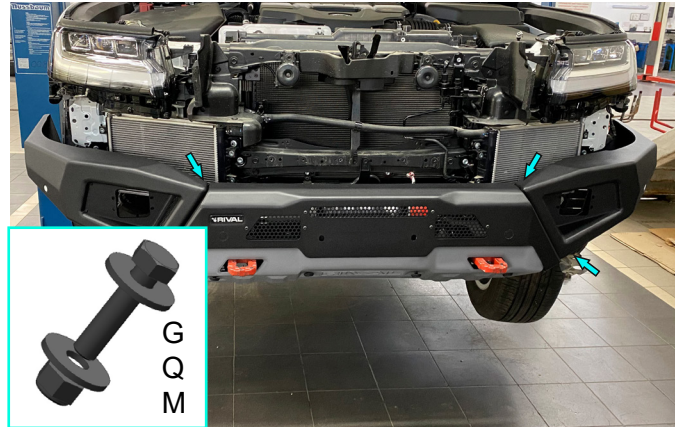

Fig.38
38. Install bumper on brackets using bolts M10x40, penny washers 10, nuts M10 (item G, Q, M) (fig.38).